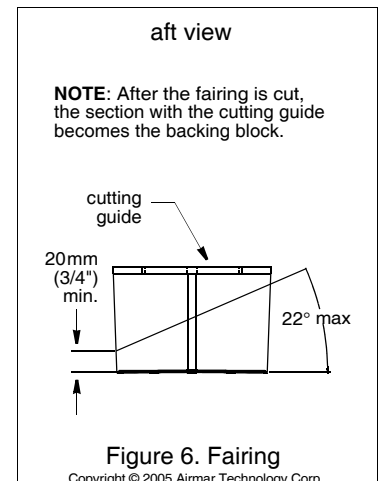

Figure 6. Fairing
4. Adjust the fence so the fairing will be cut in about two equal parts. The section that will become the fairing must be a minimum of 20mm (3/4") at its thinnest dimension (see Figure 6).